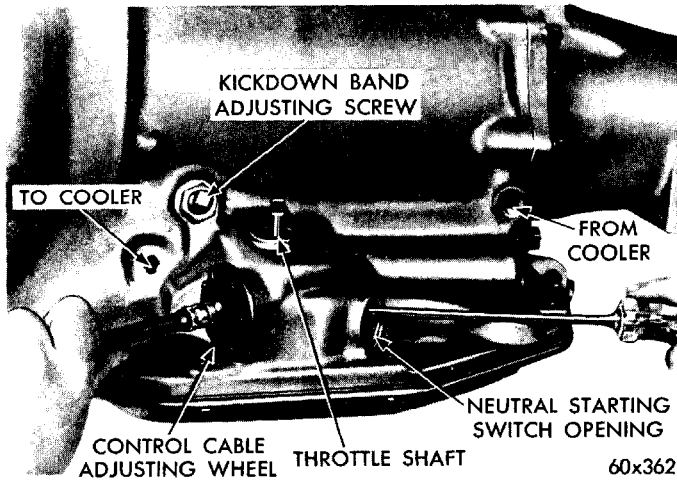

Fig. 9—Removing Gearshift Control Cable
(3) Disconnect wire from neutral starting switch and remove switch.
(4) Remove push button control cable to transmission adjusting wheel lock screw.
(5) Insert screw driver through neutral starting switch opening (Fig. 9). Push screw driver gently against upper projecting portion of cable lock-spring, and pull outward on cable to remove cable from adapter and transmission case.
(6) To install the cable, have an assistant engage the (R) button and hold it firmly engaged until the cable attachment operation is completed.
(7) Back the adjustment wheel off on the cable housing (counter-clockwise) until only two or three threads are showing behind the wheel on the guide.
(8) Lubricate the cable housing with transmission fluid, insert cable in transmission case, push inward on cable making sure lock-spring engages cable. Adjust control cable as outlined in "Maintenance, Adjustments and Tests," Paragraph 11.
(9) Refill transmission with Automatic Transmission Fluid (Type "A" Suffix "A") to proper level.
(1) Raise car on hoist. Have an assistant hold the R (reverse) button firmly depressed.
(2) Remove the push button control cable adjustment wheel lock screw at the left side of transmission (Fig. 9).
(3) Back the adjustment wheel off on the cable guide (turn counter clockwise) until only two or three threads are showing behind the wheel on the guide.
The kickdown band adjusting screw is located on the left side of the transmission case near the throttle lever shaft (Fig. 9).